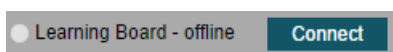

Figure 4-4. PPC3 Connect Button
- Click *New* to create a new file, and then click *Connect* button in the left bottom side to connect PPC3 with the learning board, shown as in Figure 4-4.